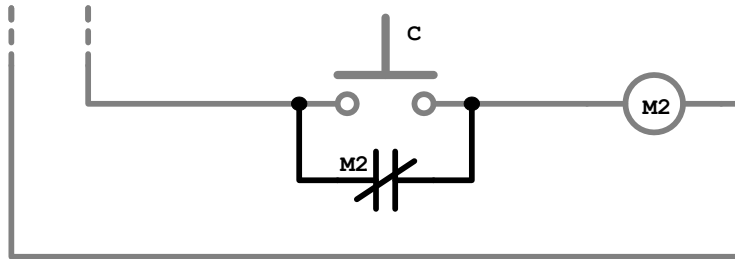

Figure 2.3 – Modified Controller #2
9. **WAIT** for the instructor’s approval, and then modify the currently-constructed control circuit by wiring in the new NC Contact that appears black in **Figure 2.3**.